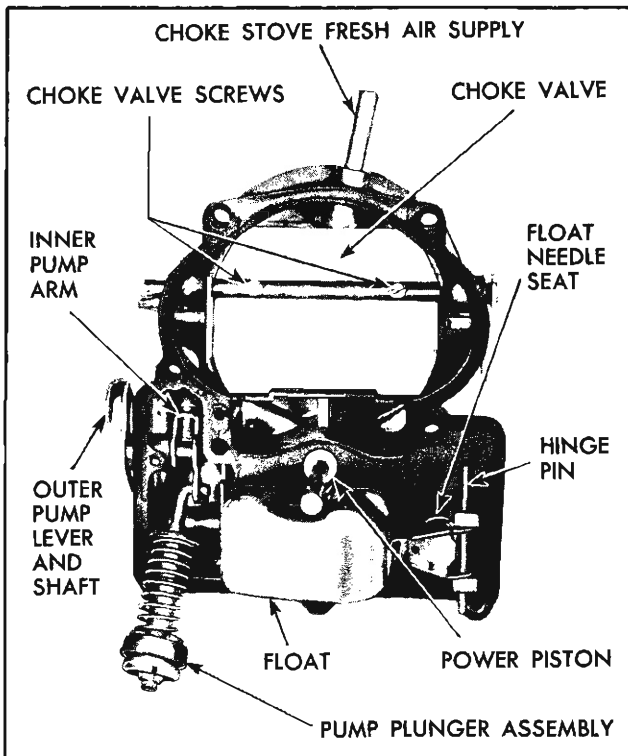

Fig. 6B-72 Bowl Cover Attaching Parts
5. Remove choke piston lever attaching screw (Fig. 6B-75).